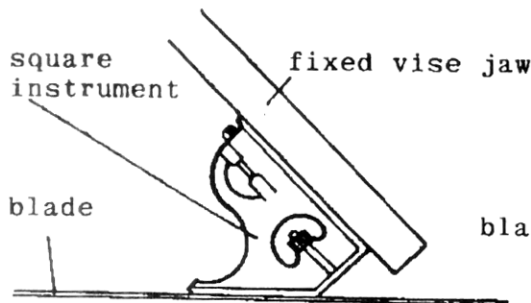

Fig. 6 45° Miter Cutting
- 3) Loosen the two lock bolts (No. 2 and No. 3 in Fig. 5) of the fixed vise jaw, then adjust the fixed vise jaw 45° against saw blade by an accurate square instrument (Fig. 6). Tighten the two lock bolts.